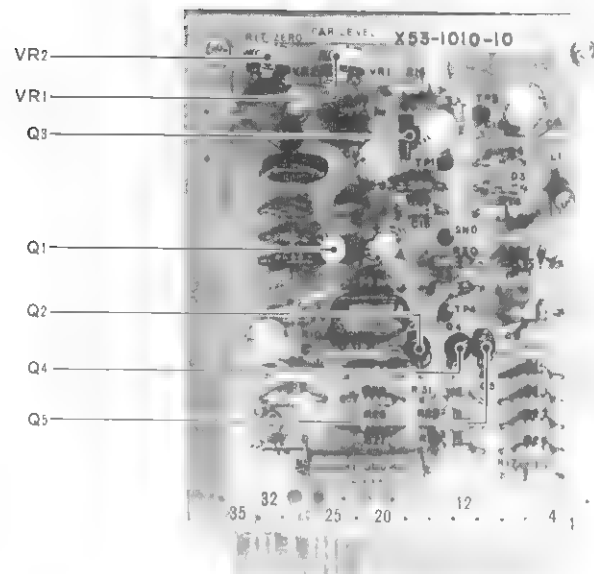

FIGURE 28. CONT Board
5.10 CONT (Control) BOARD (X53-1010-10) (See Figure 28)